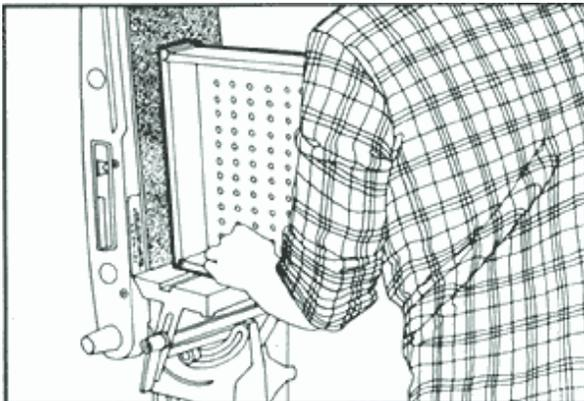

Figure 3.
Step 17: Cut the lid from the box (See Fig. 3) on your table saw. A hollow-ground planer blade would produce the best results. Set your saw's depth-of-cut at 9/16". At this setting, you will cut through the 1/2" thick lumber, but not through the glue blocks. Finish the job (in the corners) using a hand saw, then smooth all sawn surfaces with a block plane or a sanding block with very fine sandpaper.